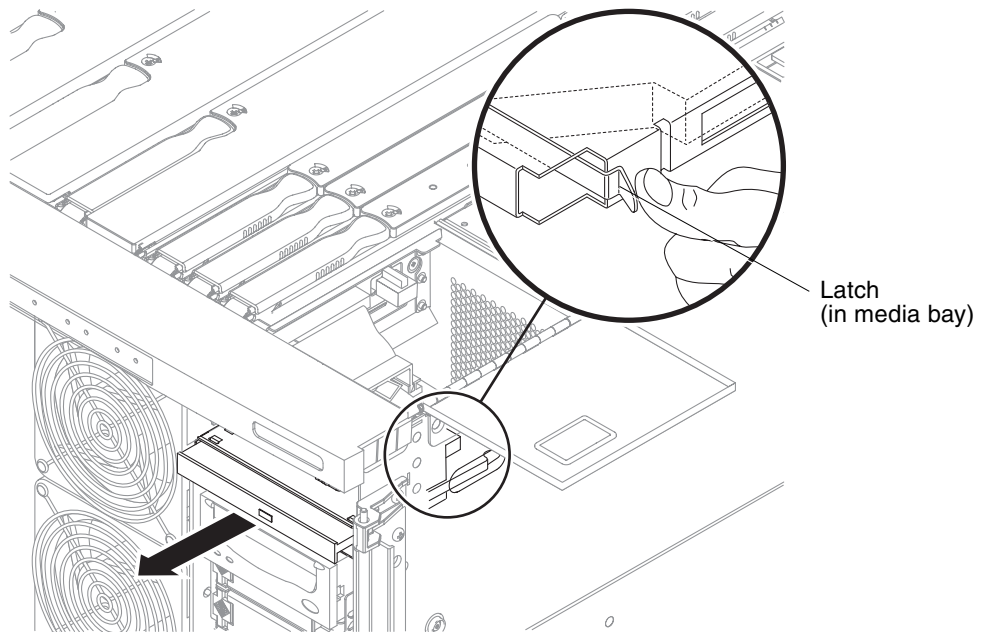

FIGURE 6-15 Removing the DVD-ROM Drive
5. Inside the media bay, push the metal latch to the right (**FIGURE 6-15**). The latch retains the drive.
6. Disconnect the DVD-ROM drive from the backplane connector. Firmly pull the DVD-ROM drive from the front of the system (FIGURE 6-15).